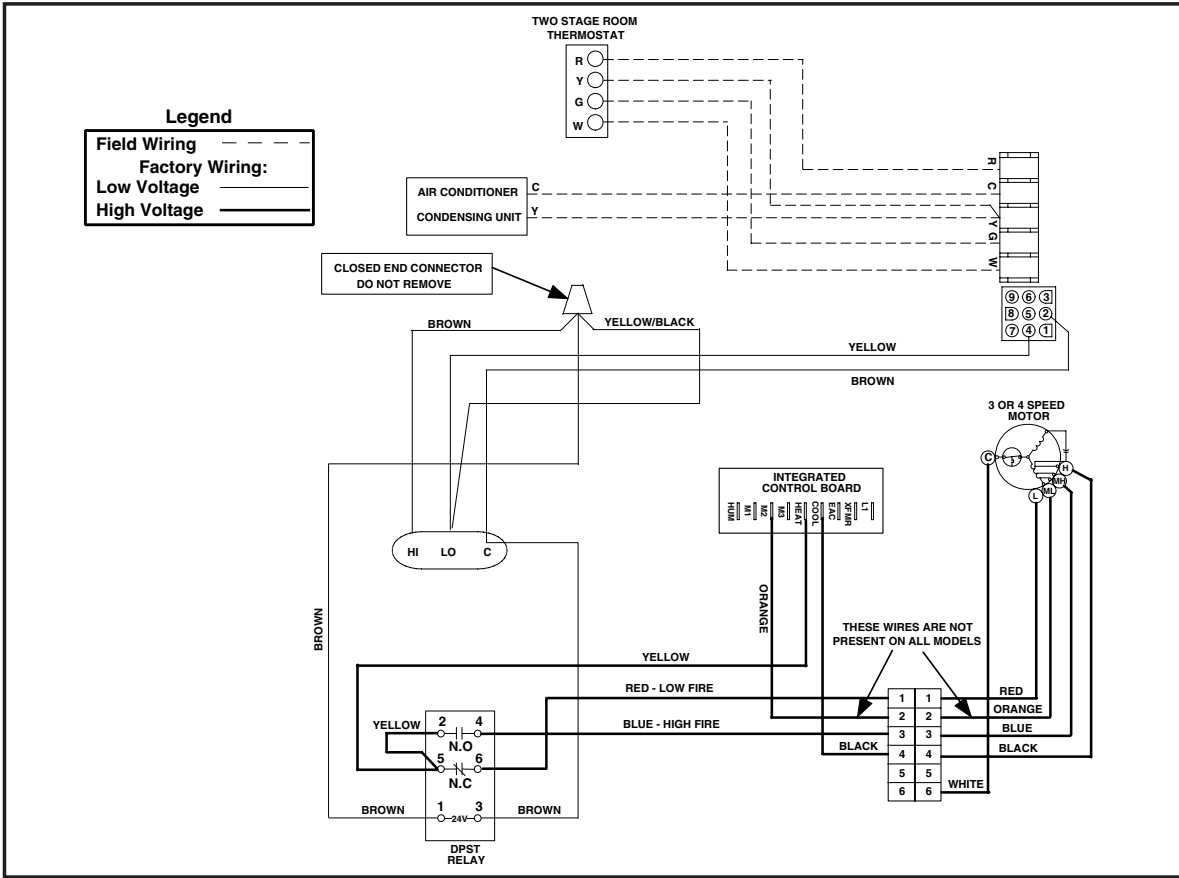

Figure 29. High Fire Only Configuration
2. *High fire only configuration* – As shipped from the factory, the low and high terminals on the gas valve are connected in parallel (See Figure 29). This defeats the staging feature and the furnace operates on high fire only. All of the burners will operate on a call for heat and the variable speed blower will operate at a higher speed.